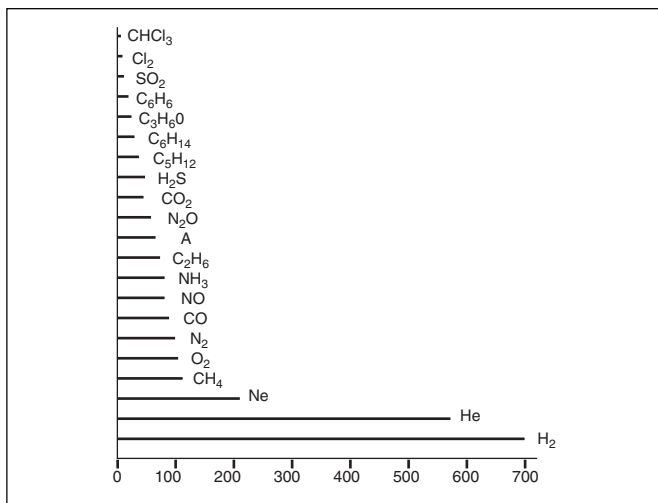

Fig. 3 Thermal conductivities relative to air at 0°C where air is 100
- b) Exploiting common factors between two or more sample constituents, for example, air is comprised principally of nitrogen and oxygen. Reference to Fig. 3 shows a similarity in thermal conductivity that enables air to be treated as one gas